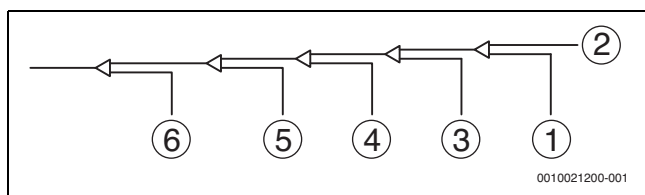

Fig. 59
8. Flush the other openings in the same manner, working in sequence from indoor unit A towards the outdoor units. Refer to Figure 59.